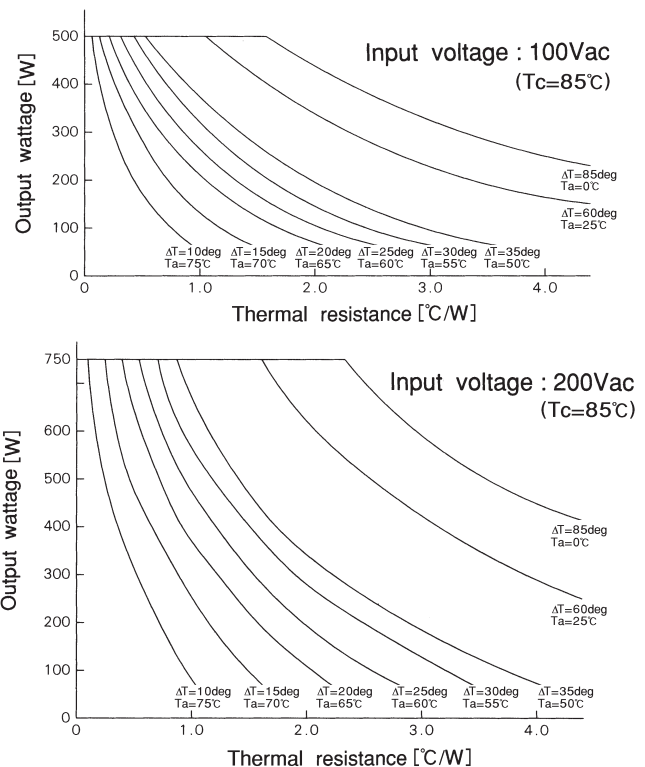

Fig.13.1 Output wattage and the thermal resistance of the heat sink
- (1)Fig.13.1 shows the recommended value to use for the thermal resistance of the heat sink in terms of the temperature. It is calculated based on the required output wattage. These values show the thermal resistance of the heat sink with the aluminum base temperature at 85°C. In order to obtain maximum reliability, keep the aluminum base plate temperature low.